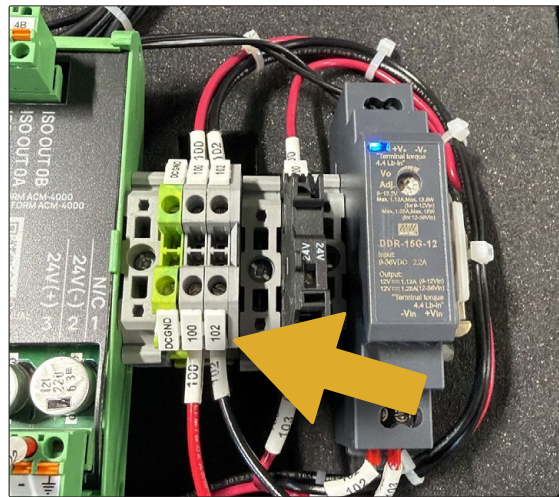
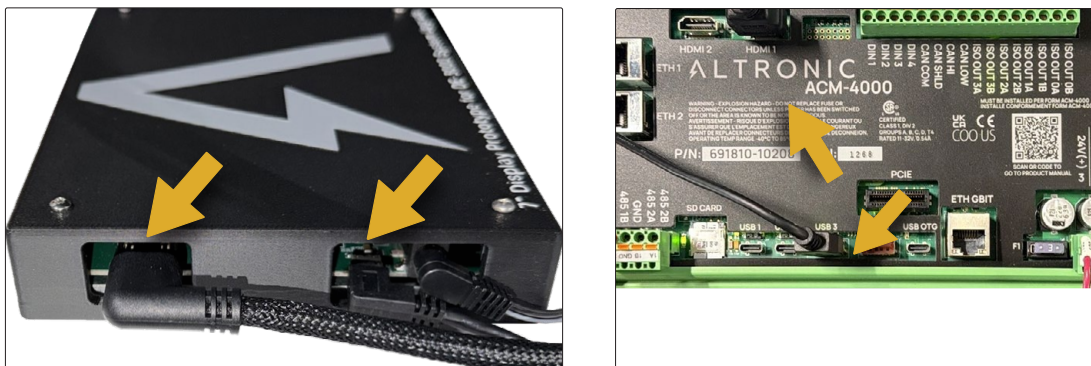

Figure 2
Figure 4
- Wire 24+VDC into terminal 100 and COM into terminal 102 on the DIN-rail. See *Figure 2*.
- Connect the HDMI cable to the display and the HDMI 1 port on the ACM-4000. Connect the USB cable to the display and the USB 3 port on the ACM-4000. See *Figure 4*.
11. Plug the power connector into the DC port on the display and wire back into the 12 VDC power supply on the DIN-rail. See *Figure 2* and *Figure 4*. **NOTE:** The black wire with the white stripe connects to +V_O and the solid black wire connects to -V_O.